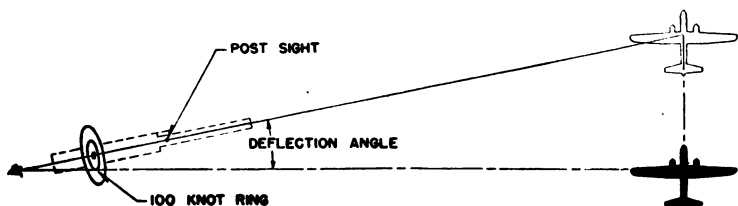

Figure 10.—Lead.
*A* is the bead on the fore sight as viewed through the peep, and *B* is the target airplane on the 100-knot ring. Under the conditions described, lining the targets on the second, or 100-knot ring, will establish the correct DEFLECTION ANGLE, by pointing the gun the correct amount AHEAD of the path of the target airplane. See figure 10.